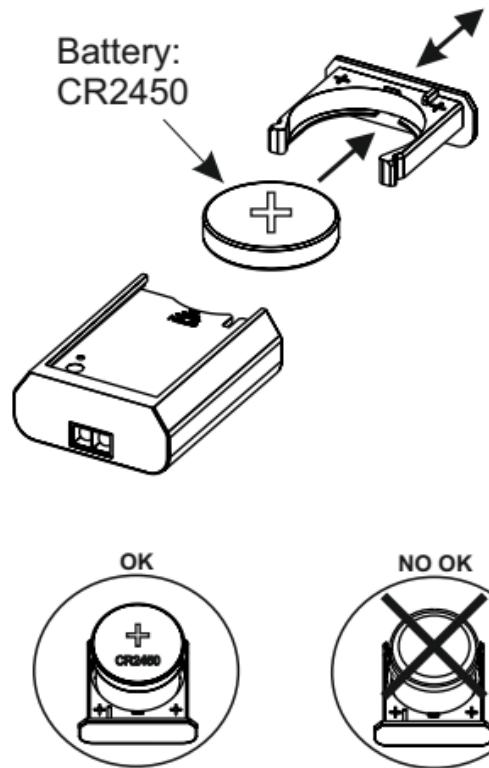

Fig. 1
- Battery mod. CR2450 (3V) lithium (Fig.1).
- Pile mod. CR2450 (3 V) lithium (Fig.1).
- Pila mod. CR2450 (3V) litio (Fig.1).